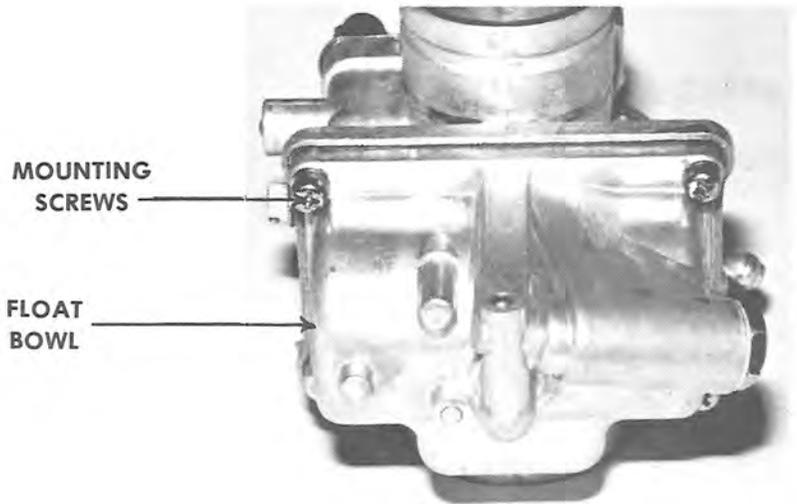

FIG. 2-17
**FLOAT BOWL (FIG. 2-17, 2-18)**